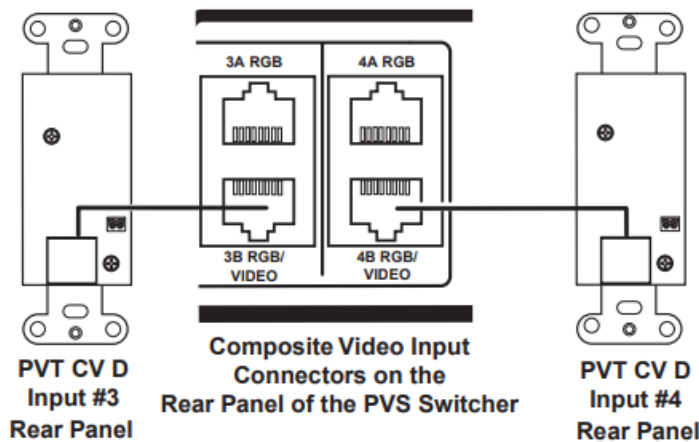

Figure 13. Connecting the PVT CV D to the PoleVault switcher
4. **Audio input (RGB D and RGB AAP models)** — Plug a 3.5 mm stereo audio plug into this jack for unbalanced audio input. Wire the plug as shown in figure 13.
pass-through. Wire the plug as shown in figure 13.